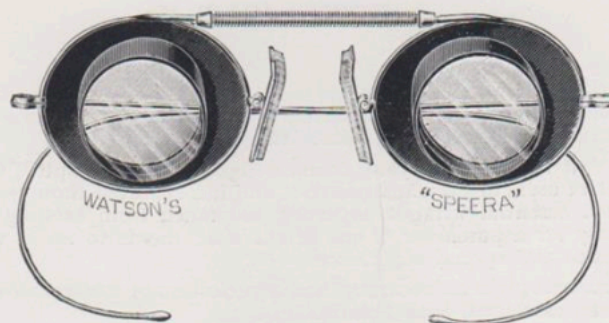

Fig. 2.
2. Where it is inconvenient or undesirable to have the fixed frame, we supply an adaptable fitting with a spring bar, as shown in figure 2. It is still desirable with this to know the width of the eye centres, but the height and shape of the bridge is comparatively unimportant, because the frame itself can be opened on the spring to the requisite amount, and the plaquets, which have cork grips, can be bent to the exact shape of the nose.